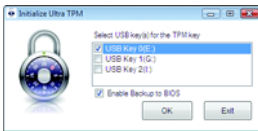

Figure 2
3. To duplicate a TPM key to another USB flash drive, right-click on the Ultra TPM icon  and select **Duplicate**. A screen in Figure 2 will appear. Select the drive letter of the source USB flash drive and then select the drive letter of the destination USB flash drive. Click **OK** to complete.